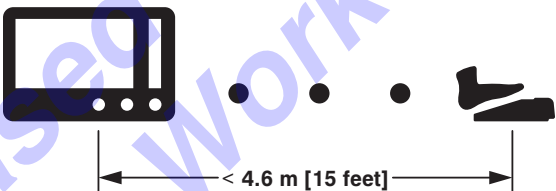

Figure 77 – Console - Wireless Foot Pedal Proximity
6. After a successful connection, put the [wireless] foot pedal in a location within 4.6 m [15 feet] of the console (Figure 77).